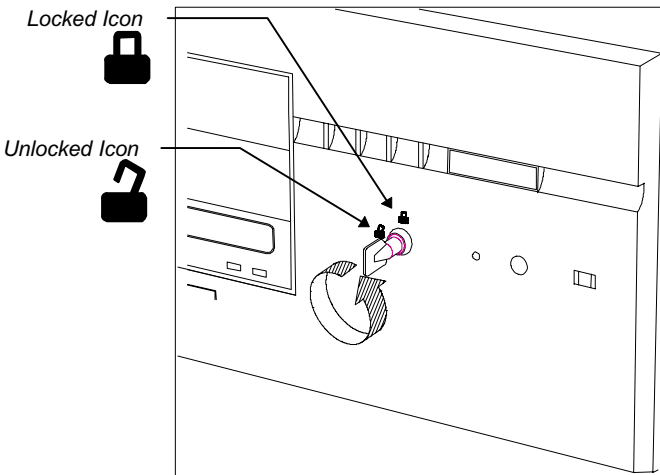

Figure 2-6 Unlocking the Front Panel Security
- ✓ Insert the front panel key and turn it counter-clockwise until it points to the unlocked icon. See Figure 2-6.